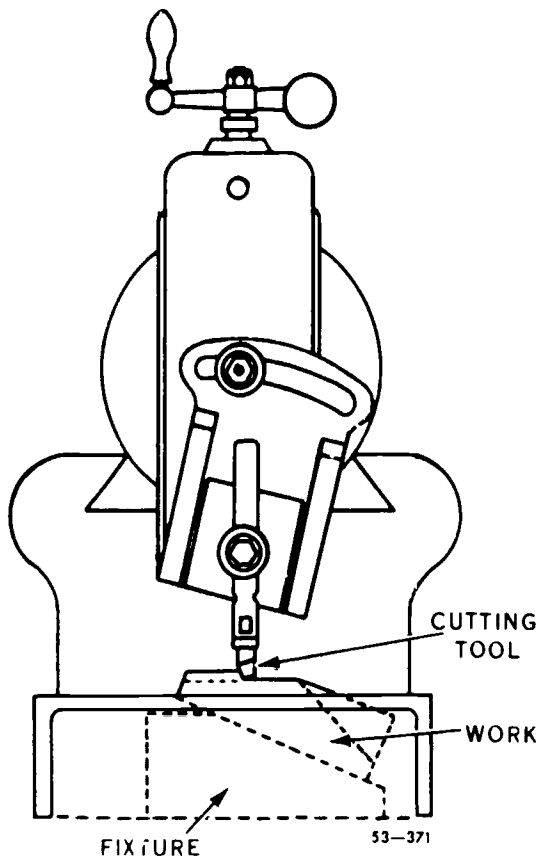

Figure 2-29 Angular planing with a fixture
*Using a fixture.* You can mount work on a fixture, as shown in figure 2-29, to machine an angular surface in the same way that you machine a horizontal surface. You can manufacture fixtures that hold work at any angle you need. However, the time required to manufacture a fixture is not justified unless the work recurs, or you are machining several identical items.